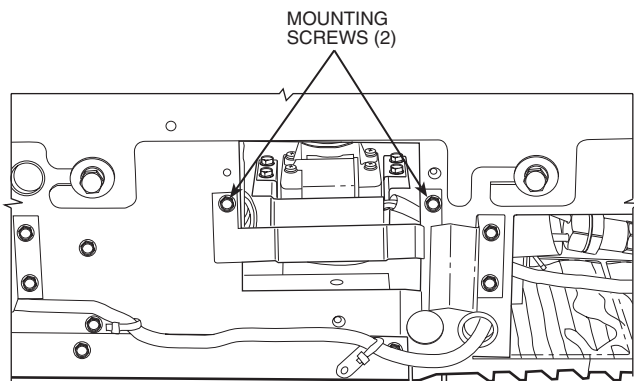

Fig. 4 — Condensate Pump Mounting
5. Secure condensate pump assembly as shown in Fig. 4, using the 2 no. 10 screws provided. Be sure pump intake and float is properly seated in condensate well of drain pan.